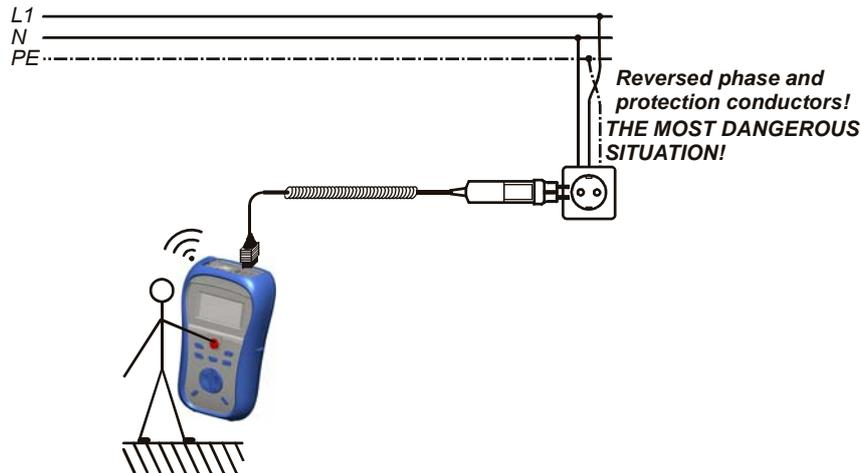

Figure 5.31: Reversed L and PE conductors (application of plug cable)
- ❑ **Connect** test leads to the item to be tested (see *figures 5.31 and 5.32*).